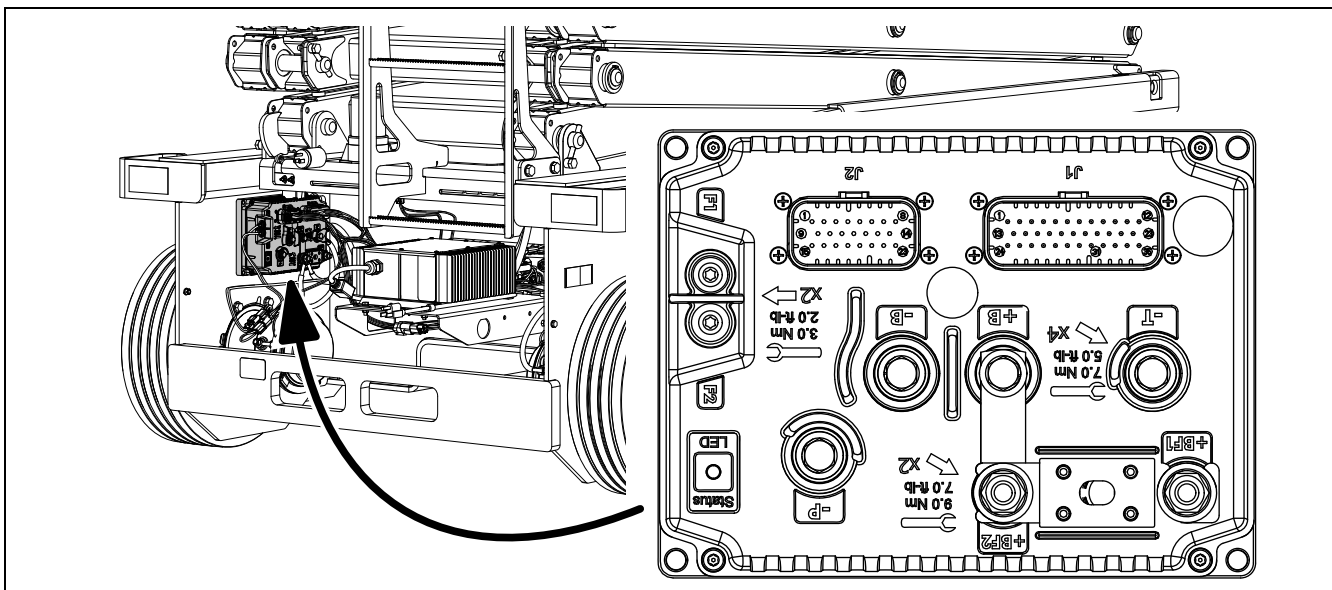

Figure 3-21. ZAPI Power Module Location and Orientation (All models)
The power module is located inside rear machine cover at the left rear of the machine, as shown in Figure 3-21., ZAPI Power Module Location and Orientation (All models). Use the following instructions when replacing the power module.
5. When installing the power module, be sure that the terminals are oriented as shown in Figure 3-21.